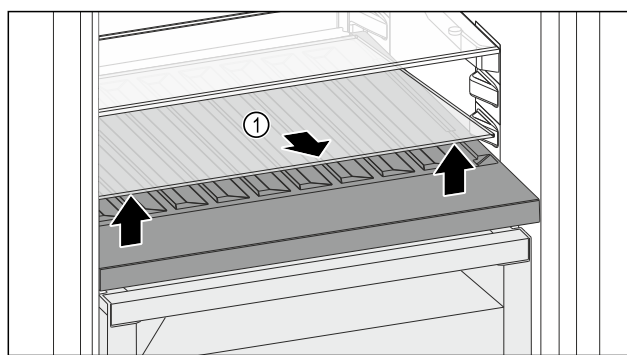

Fig. 97
- Lift the glass shelf Fig. 97 (1) at the front and remove.
- Store the glass shelf Fig. 97 (1) in a safe place outside the appliance.